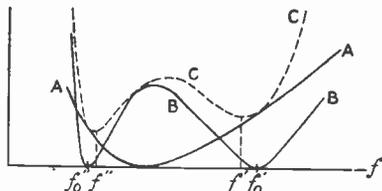

Fig. 12.
Inspection, however, shows the following facts. The first term of the denominator varies with the frequency somewhat according to the curve A, Fig. 12. The second term varies according to curve B. If the first term (curve A) were not effective the two frequencies giving maximum amplification would be determined by the usual coupled circuit equation (28) and would be located at  $f_0'$  and  $f_0''$  (Fig. 12) where the B curve touches  $f$  axis. The presence of the first term (curve A) however makes the resultant impedance curve (curve A + curve B) take the form of curve C. The two minima are brought closer together. Thus as far as the location of the minima are concerned the effect is the same as though
Now, referring to (28), it will be seen that using  $C_1 = C_p + C_m$ , which is smaller than its actual value, operates on the separation of the two resonant frequencies in a contrary manner to reduction of  $K$ . What is desired, according to the indications of Fig. 12, is to somewhat raise the lower resonant frequency  $f''$ , as determined from (28) and lower the higher resonant frequency  $f'$  (generally a somewhat greater amount).